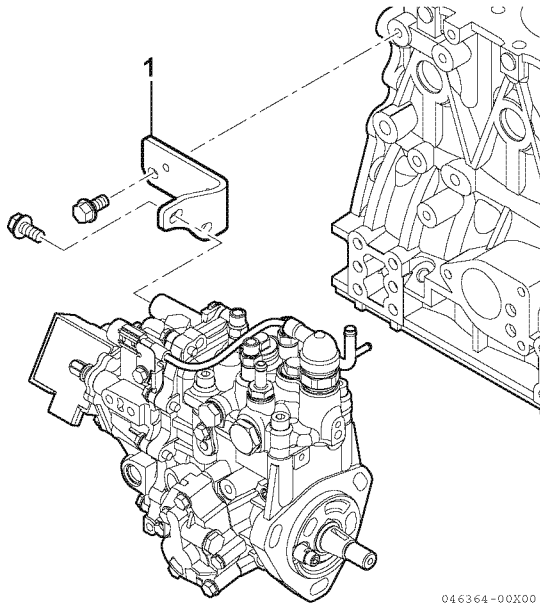

Figure 7-27
6. Reinstall the rear bracket(s) (**Figure 7-27, (1)**) to the fuel injection pump. Tighten the rear support bolts.